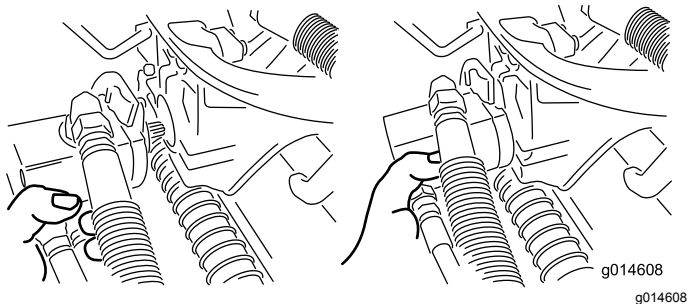

Figure 33
3. Move the motor to the storage location on the front of the suspension arm (Figure 33).